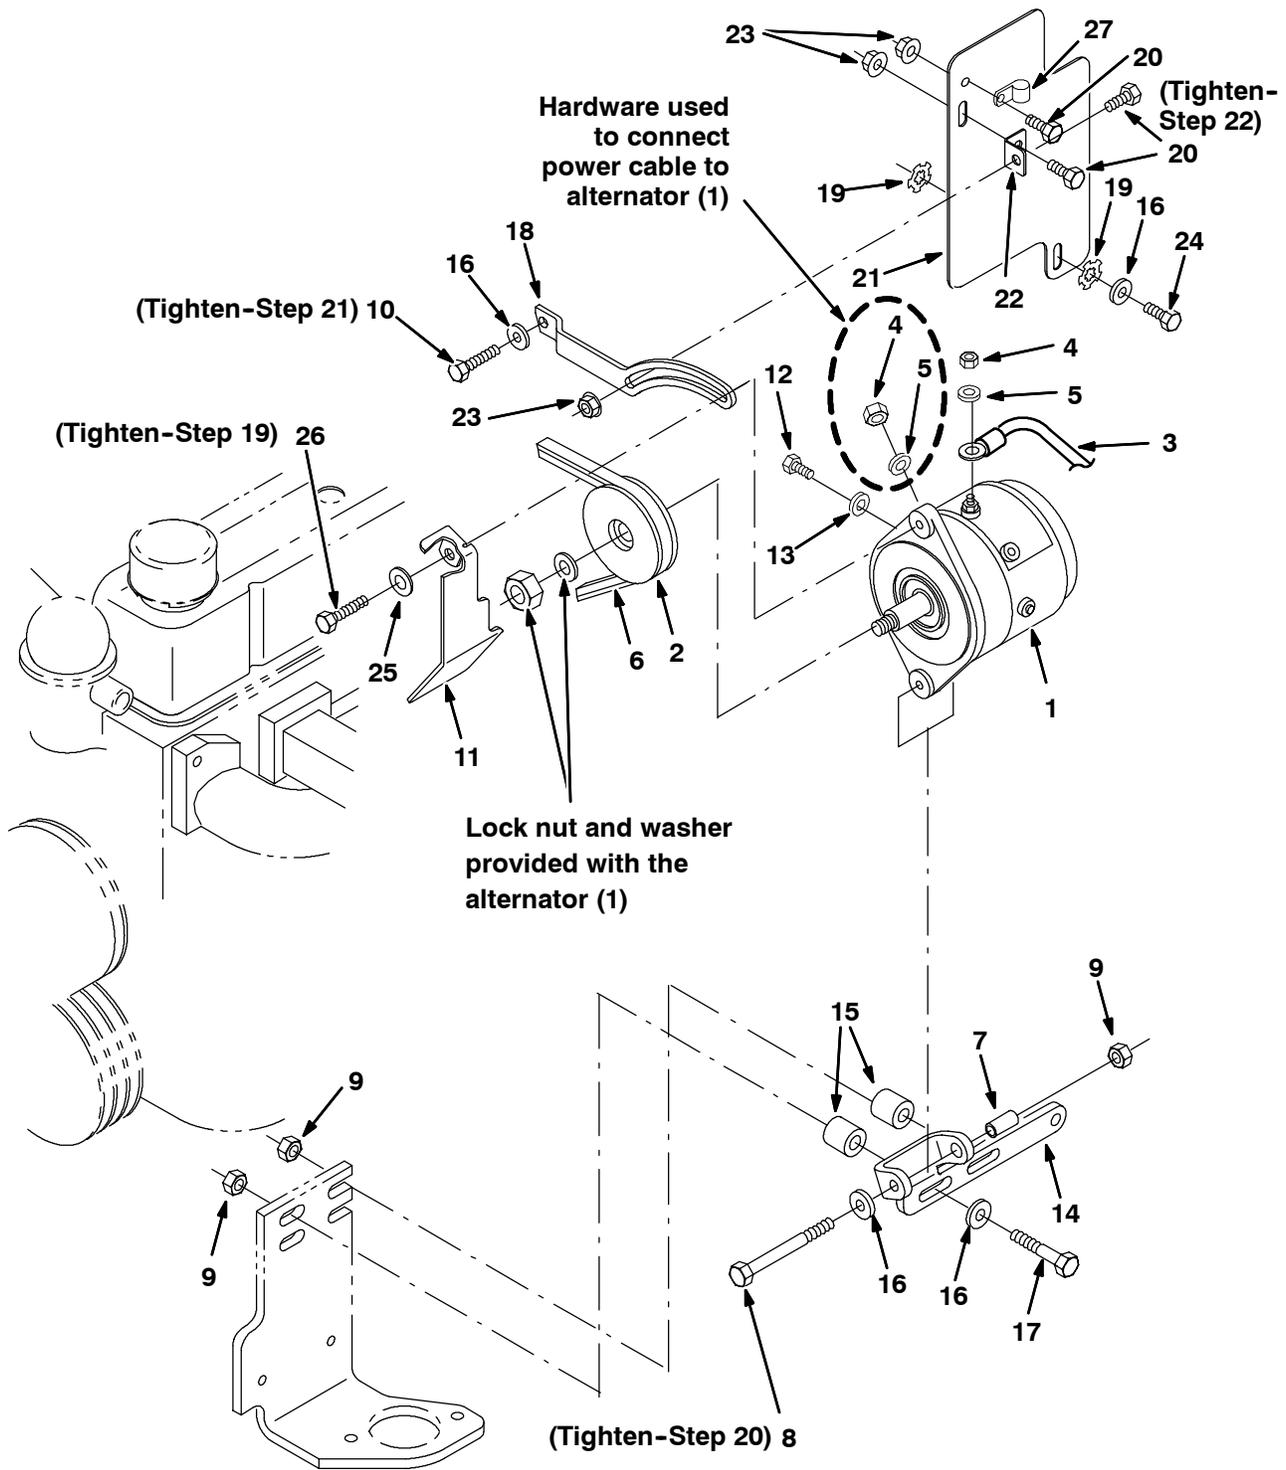

FIG. 1
(Refer to FIG. 1 for locations of all parts installed in this instruction bulletin)
9. Use the lock nut and washer provided with the new alternator (1) to install the new sheave (2) onto the new alternator.
10. Install the hex screw (12) and lock washer (13) onto the alternator (1).
11. Use a hex screw (20) and a hex nut (23) to loosely mount the heat shield angle (22) to the heat shield plate (21).
12. Use a hex screw (24), a flat washer (16) and two lock washers (19) to mount the heat shield plate (21) onto the machine.
13. Use a hex screw (26) and a belleville washer (25) to mount the new alternator guard bracket (11) and the new alternator arm (18) onto the new alternator (1).
14. Use a hex screw (10) and a flat washer (16) to loosely mount the stationary end of the alternator arm (18) to the machine.
15. Use a hex screw (20) and a hex nut (23) to loosely mount the alternator arm (18) to the heat shield angle (22).
16. Use two hex screws (17), two flat washers (16), sleeve bushings (15), and two lock nuts (9) to mount the new alternator mounting bracket (14) to machine.
17. Press the alternator sleeve (7) into the alternator mounting bracket (14). Use the alternator (1) to guide the alternator sleeve (7) into the alternator mounting bracket (14).
18. Use a hex screw (8), a flat washer (16), the alternator sleeve (7), and a lock nut (9) to loosely mount the new alternator (1) to the alternator mounting bracket (14).
19. Install the new V-belt (6) onto the three sheaves. Pull the alternator (1) away from the engine until the V-belt (6) is tight and tighten hex screw (26). Refer to reference in Fig. 1.
20. Tighten hex screw (8) holding the alternator (1) to the alternator mounting bracket (14). Refer to reference in Fig. 1.
21. Tighten hex screw (10) holding the alternator arm (18) onto the machine. Refer to reference in Fig. 1.
22. Tighten the hex screw (20) and hex nut (23) holding the heat shield angle (22) onto the heat shield plate (21) and the hex screw (20) and hex nut (23) holding the alternator arm (18) onto the heat shield angle (22). Refer to reference in Fig. 1.
23. Use a hex nut (4) and a washer (5) to install the ground wire (3) onto the alternator (1). Connect the loose end of the ground wire (3) to a ground stud.
24. Use a hex nut (4) and a washer (5) to connect the power wire to the alternator (1).
25. Secure the wiring from the engine inside cable clamp (27) and use a hex screw (20) and hex nut (23) to secure the cable clamp (27) onto the heat shield plate (21).